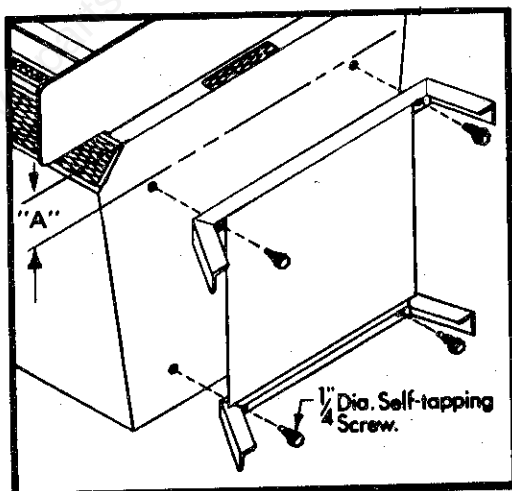

FIGURE 5
7. Attach the legstand by tilting the stove on its back, center the legstand on the bottom of the stove and position back 7/32" from the dimension shown in chart left of Figure 5. When positioned, drill holes through holes of mounting stand and attach using $\frac{1}{4}$ " Dia. self-tapping screws provided. (See Figure 5.)